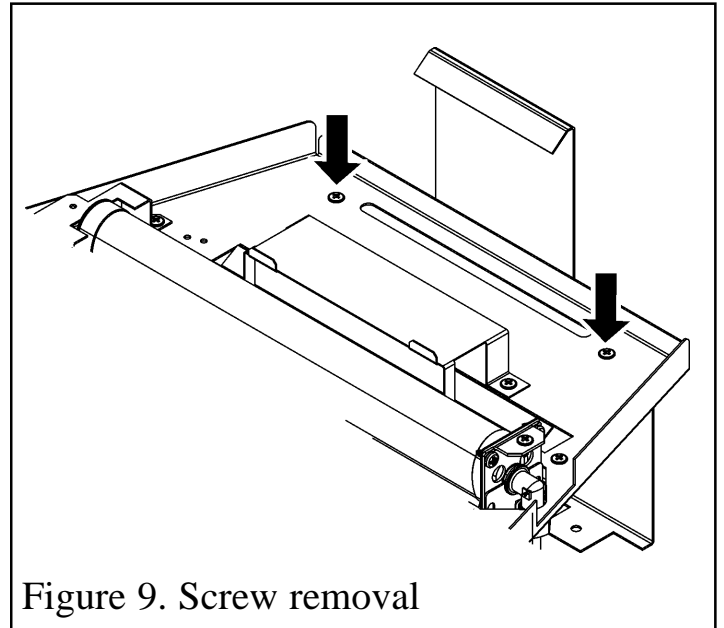

Figure 9. Screw removal
- Without disturbing the burner, remove the two screws at the rear of the burner tray (See figure 9). These secure the rear ceramic support bracket to the burner tray.